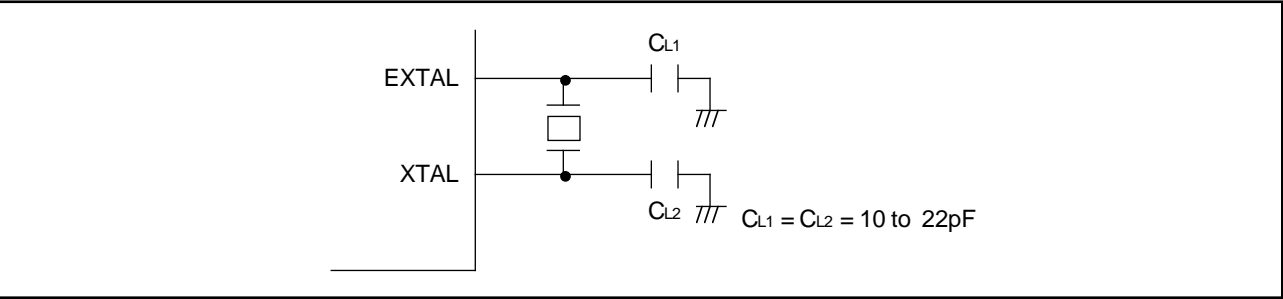

Figure 15-2. Connection of Crystal Oscillator (Example)
(1) Connecting an External Crystal
- ① **Circuit Configuration:** An external crystal can be connected as in the example in figure 15-2. An AT-cut parallel resonating crystal should be used.